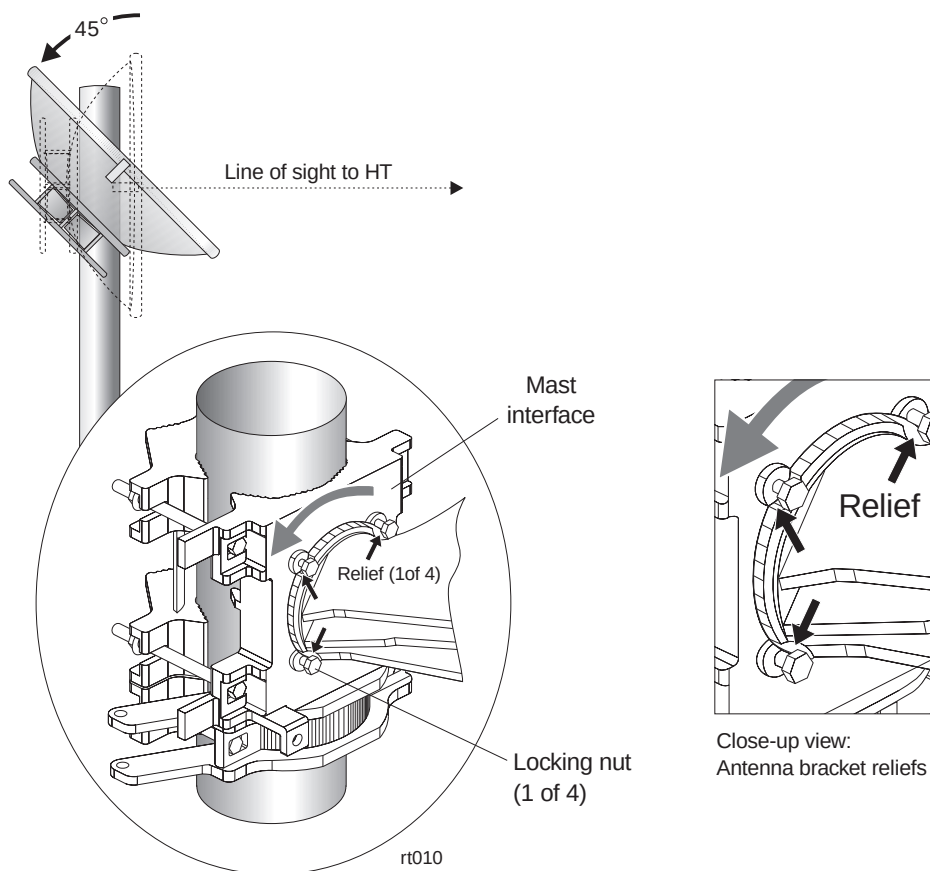

Figure 6-11 Rotating the antenna so the antenna bracket can be placed against the mast interface
2. Rotate the antenna approximately 45° away from the HT until the antenna bracket reliefs (curved indentations) are aligned with the four nuts on the mast interface, as shown in figure 6-11.